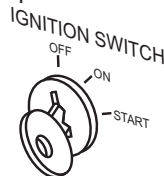

Figure 33. Ignition Key (Off)
4. If the check engine warning lamp is on, stop engine. Place ignition key in the **OFF** position. See Figure 33.